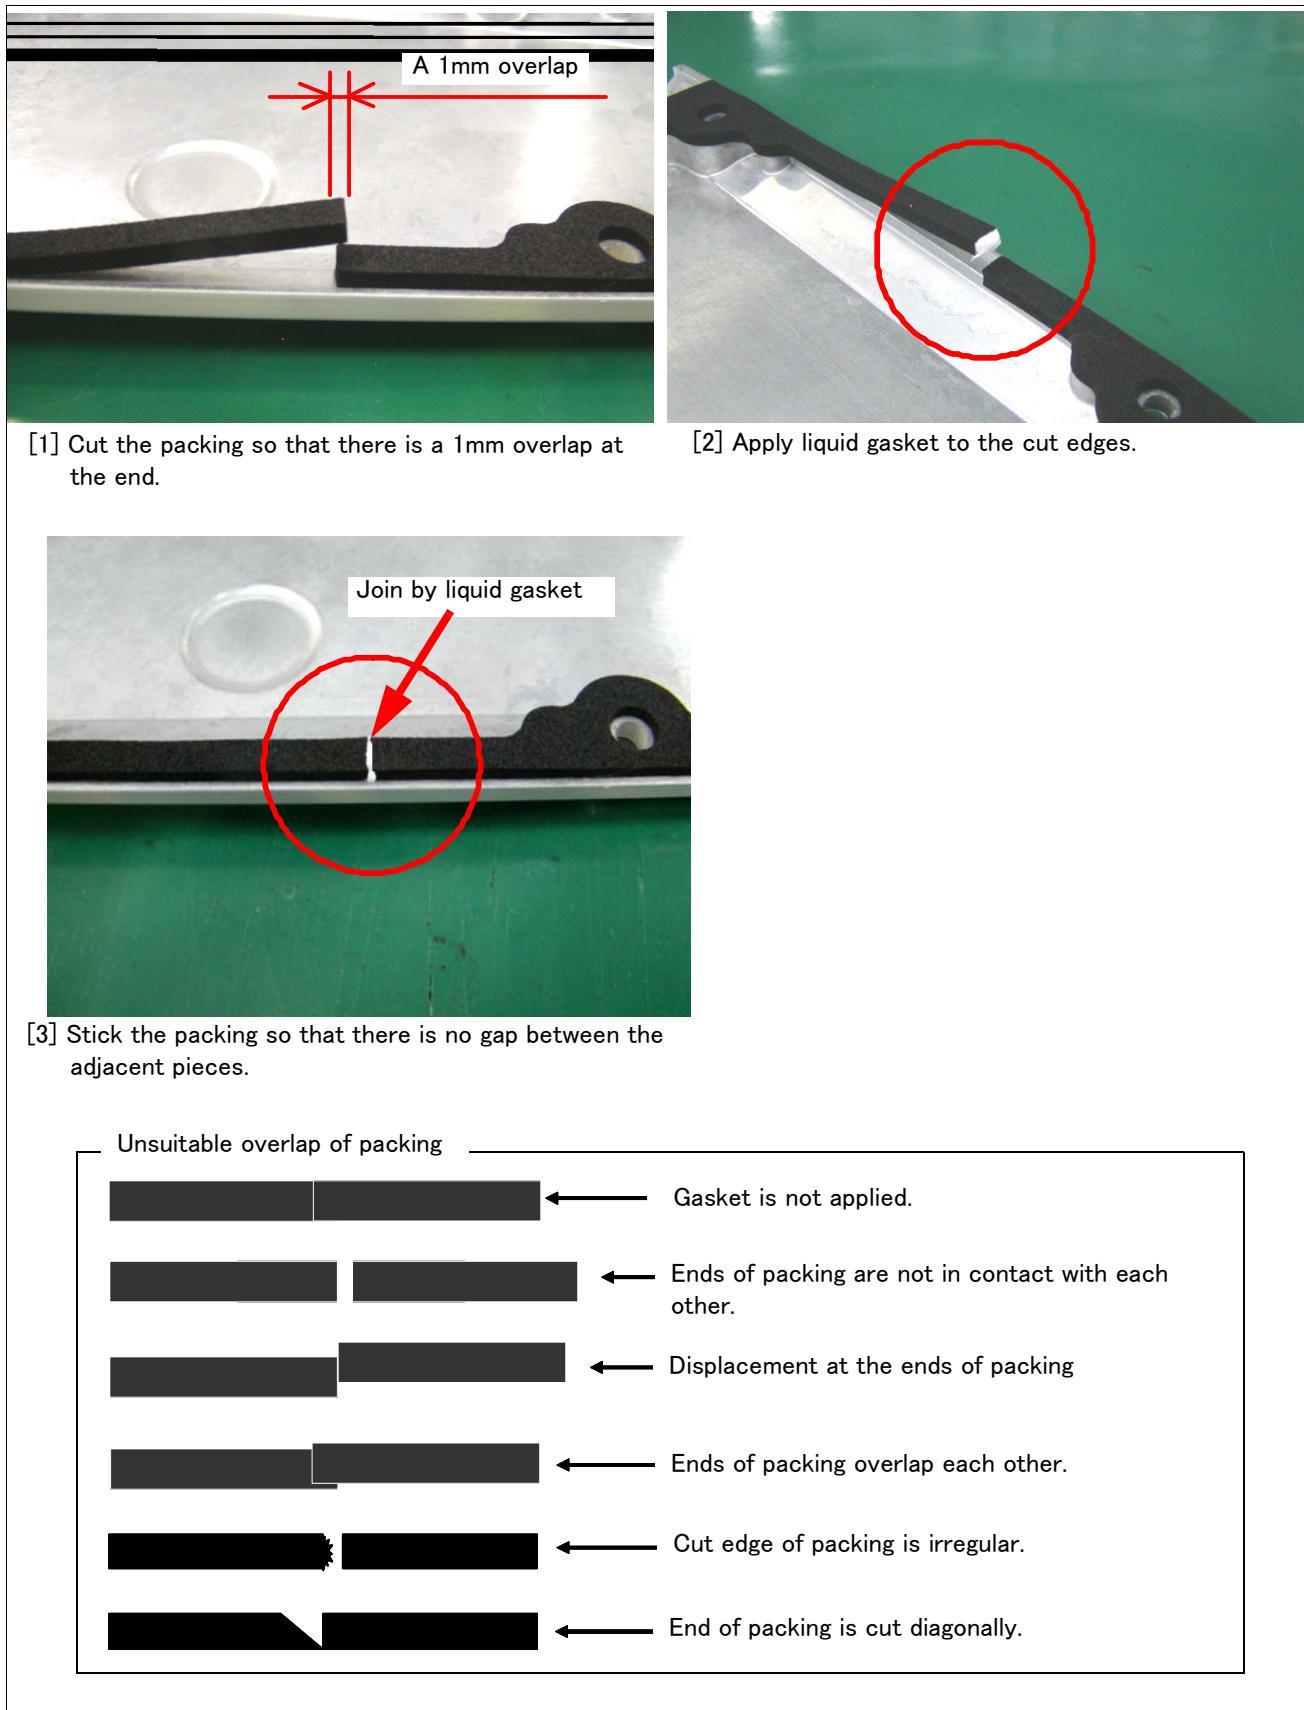

Fig.5-9 : Examples of packing overlaps
- 3) Extra length is included for each packing piece used on the cover where two or more pieces are attached to one place. Stick packing in the following procedures. For more information, see "Fig.5-9 : Examples of packing overlaps". Examples of improperly treated cut edge are shown, as well.